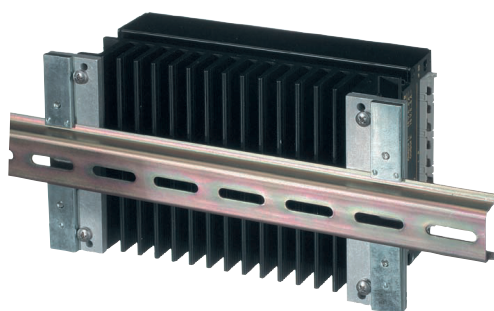

Fig. 49
- DIN-rail mounting assembly HZZ0615-G (DMB-K/S); see fig. 49